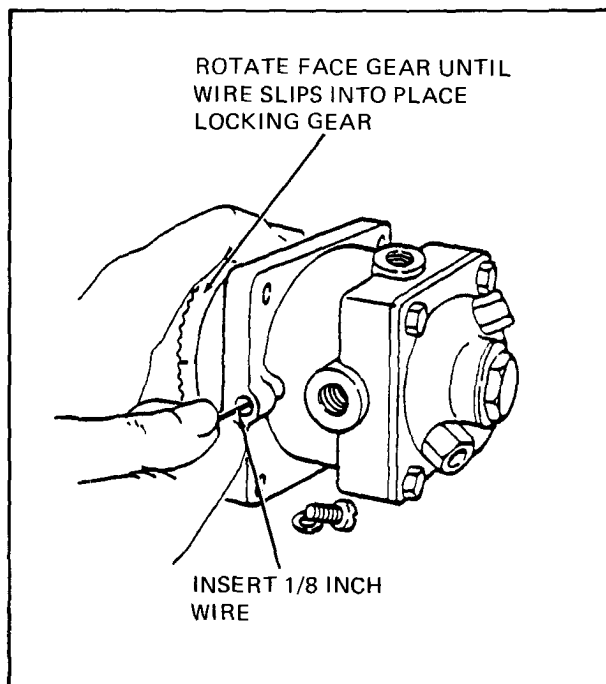

Figure 7-42. Injection Pump Installation
(2) Remove timing hole screw located on pump mounting flange (figure 7-42). Insert a 1/8 inch diameter wire into the hole.
(3) Rotate pump face gear until wire slips into place locking the gear in position.